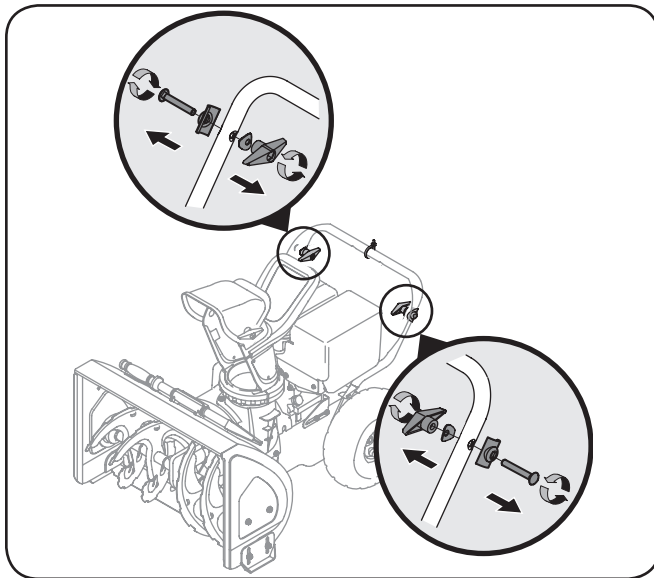

Figure 3-1
2. Remove the wing knob, saddle washer, handle tab and carriage screw on each side of the lower handle. See Figure 3-1.
3. Slide one of the loosely fitted cable ties from the right side of the lower handle up to the cross member of the lower handle. Leave the second cable tie in place on the right side of the lower handle. See Figure 3-1 for reference.